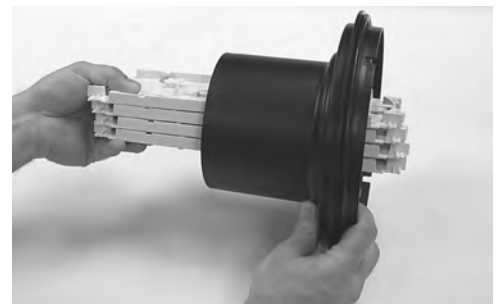

Figure 3
Note: Existing trays must be able to fit through the hole in the base of the FOOSC 450 D closure, (Figure 3) and must not exceed the length of the metal basket. Maximum tray length is 14" and maximum width is 4.5".
3. Slide base of closure (narrow end first) over existing splice trays and any cables to be spliced and place it up and out of the way. (Figure 3) Attach bottom splice tray inside metal slack basket or bottom tray bracket support using supplied Velcro fastener pieces. (Figure 4) Stack remaining trays on bottom tray and fasten trays to slack basket or bottom tray bracket support with short Velcro fastener strap.